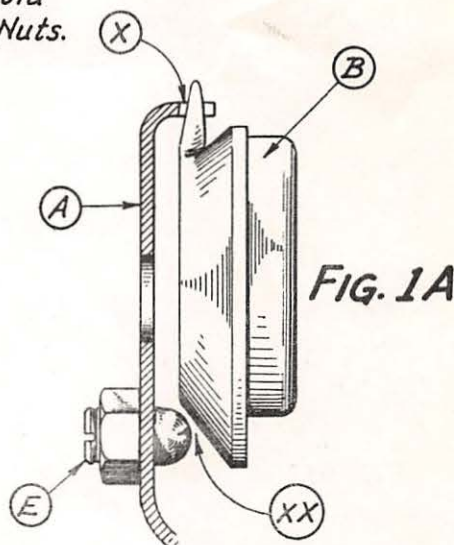
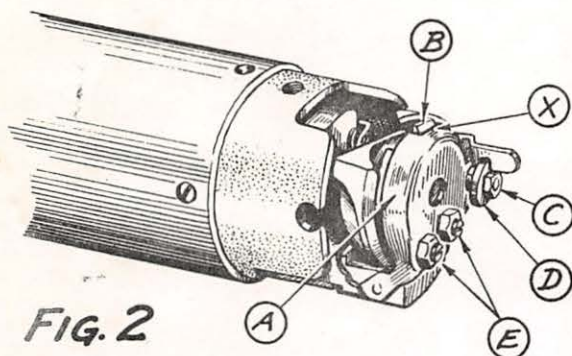

FIG. 1A
FIG. 2
Excessive clearance at (XX) Fig. 1A will cause rattling of Bobbin Case (B).
Adjust for clearance at point (XX) Fig 1A by means of Adjusting Screws (E) Fig. 2 using same procedure as outlined in the above 2nd STEP.